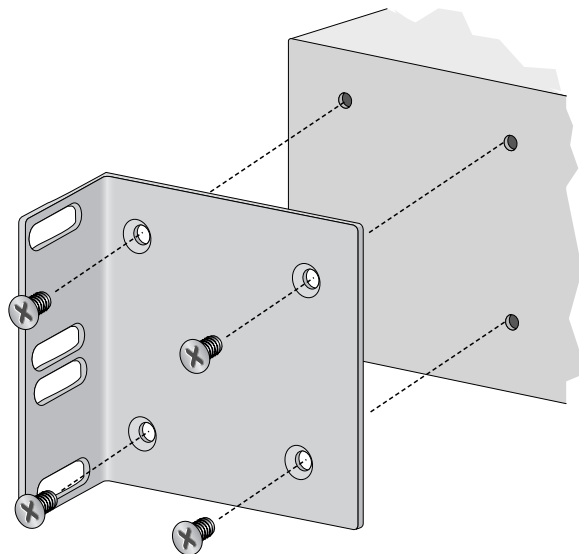

Figure 19. Attaching Rackmounting Brackets
4. Attach a rackmounting bracket to one side of the switch using four of the screws that came with the switch. See Figure 19.